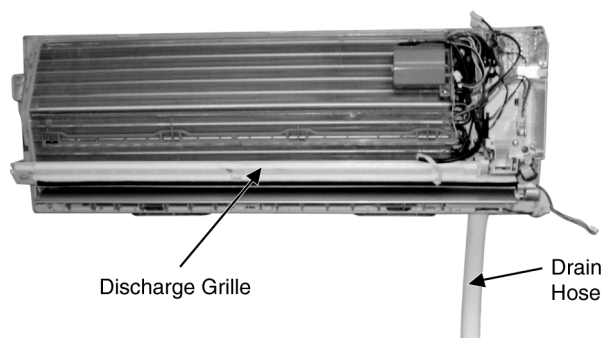

Fig. 8
- Pull out the Drain Hose (behind the Discharge Grille) from outlet to remove the Discharge Grille. (Fig. 8)